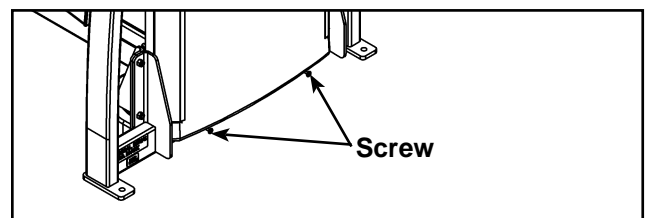

Figure 9
- A. Carefully place shroud back into position on the two bottom screws. See Figure 9.